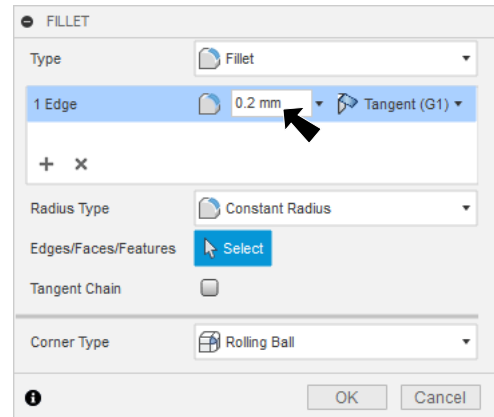

Fig. 20
Step 2. On the Solid tab **SOLID** click **Fillet**  (F) in the Modify area of toolbar.
Step 3. In the Fillet panel set, **Fig. 20**